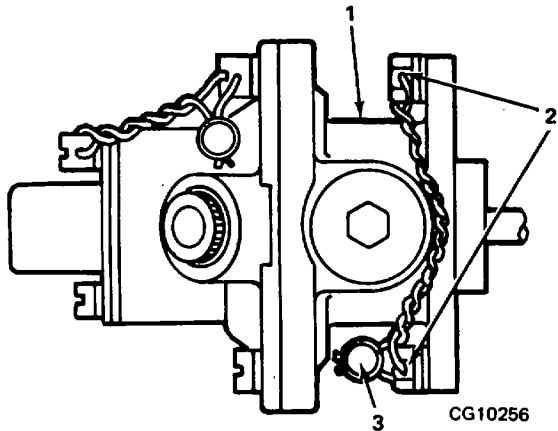

Figure 6. Aneroid Mounting
2. Remove seal wire and remove 4 aneroid assembly to governor housing screws (Figure 6).